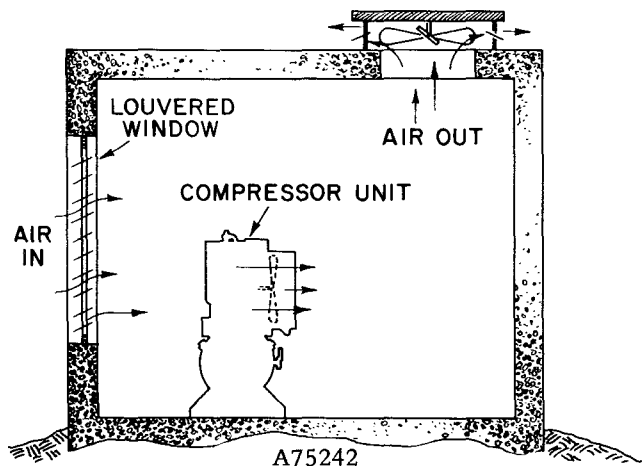

FIGURE 1-6. — COMPRESSOR ENCLOSURE
enclosure. Do not block air flow through the cooler. Allow two (2) feet from the cooler face to nearest obstruction. Figure 1-6 is a typical inlet-outlet air flow arrangement.